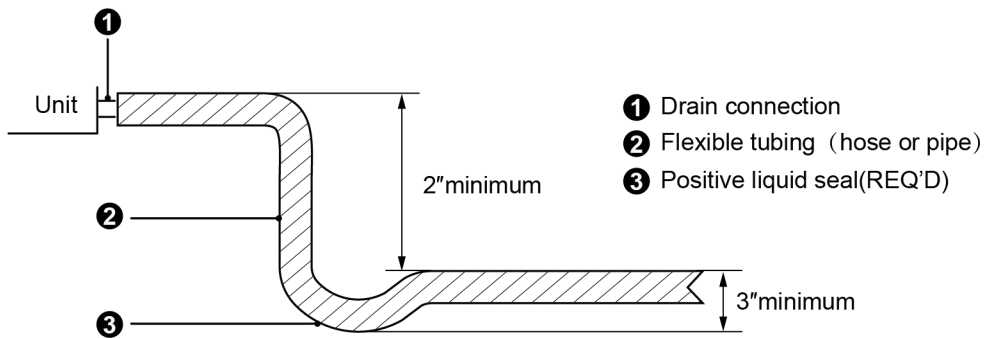

Fig.4.4
- (1) It is not allowed to connect the condensate drain pipe into waste pipe or other pipelines which are likely to produce corrosive or peculiar smell to prevent the smell from entering indoors or corrupt the unit.
- (2) It is not allowed to connect the condensate drain pipe into rain pipe to prevent rain water from pouring in and cause property loss or personal injury.
- (3) Condensate drain pipe should be connected into special drain system for air conditioner.
- (4) The drain pan has primary and secondary drain connection (Fig.4.4). Condensate removal is performed by attaching a 3/4" PVC pipe to the evaporator coil pan and terminated in accordance with local or state Plumbing/HVAC codes. The installation must include a "P" style trap that is located closely to the evaporator coil. Do not over-tighten the drain connection(s) in order to prevent possible damage to the evaporator drain pan. See Fig.4.4 for details of a typical condensate line "P" trap.